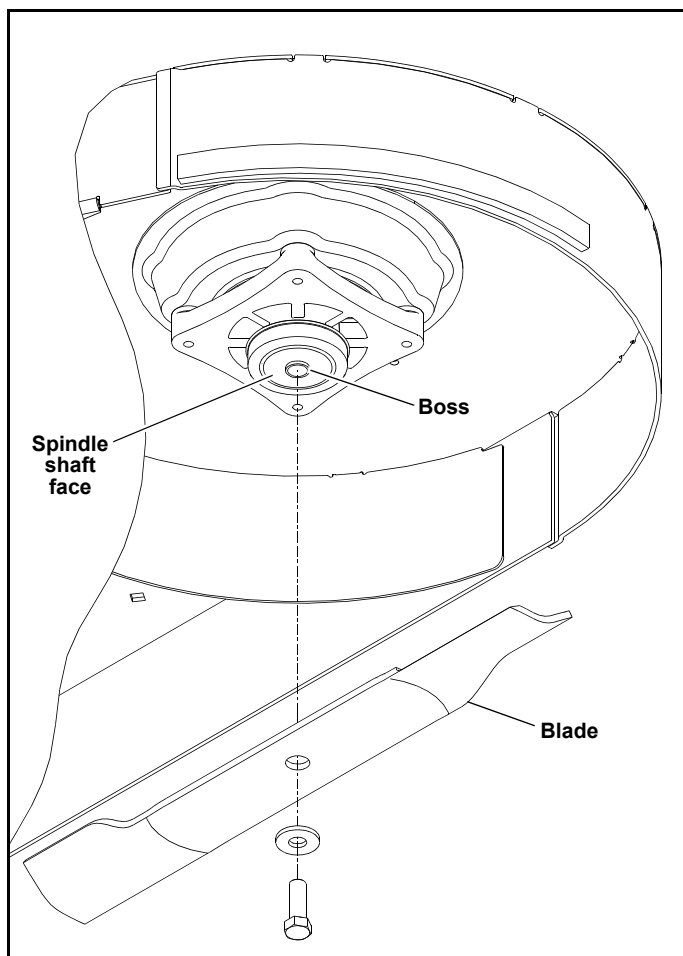

Figure 4-8
**IMPORTANT:** The spindles have 5/8" diameter boss that centers the blades on the spindles. When re-installing blades, ensure that the blade is centered on the boss and seated flat against the spindle shaft face. Rotate the blades after installation to ensure blade tips do not touch each other or sides of the mower. Figure 4-8